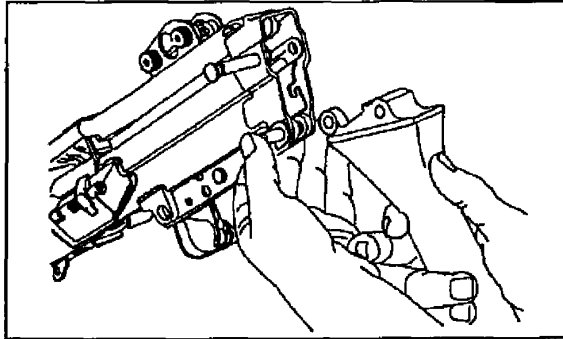

Figure 071-312-4025-28. Replacement of the buttstock and shoulder assembly
f. Replace the buttstock and shoulder assembly (figure 071-312-4025-28). Support the trigger mechanism with your left hand. Align the lower hole in buttstock and buffer assembly with the rear hole in the trigger mechanism. Push the lower retaining pin to the right.